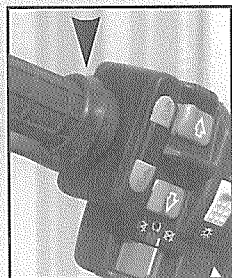

Figure 3
2. Roll back handle grip for positioning handle bar switch. See Fig. 3